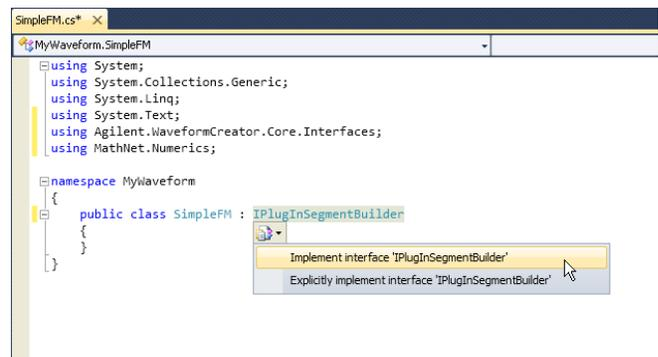

Figure 5. Selecting the implement interface option
- Click on the word IPlugInSegmentBuilder, then hover over the small blue rectangle that appears under the letter I until a dropdown appears. Click and select "Implement interface 'IPlugInSegmentBuilder'" as shown in Figure 5. This will auto generate a code template for your class with the necessary public methods and parameters shown below.